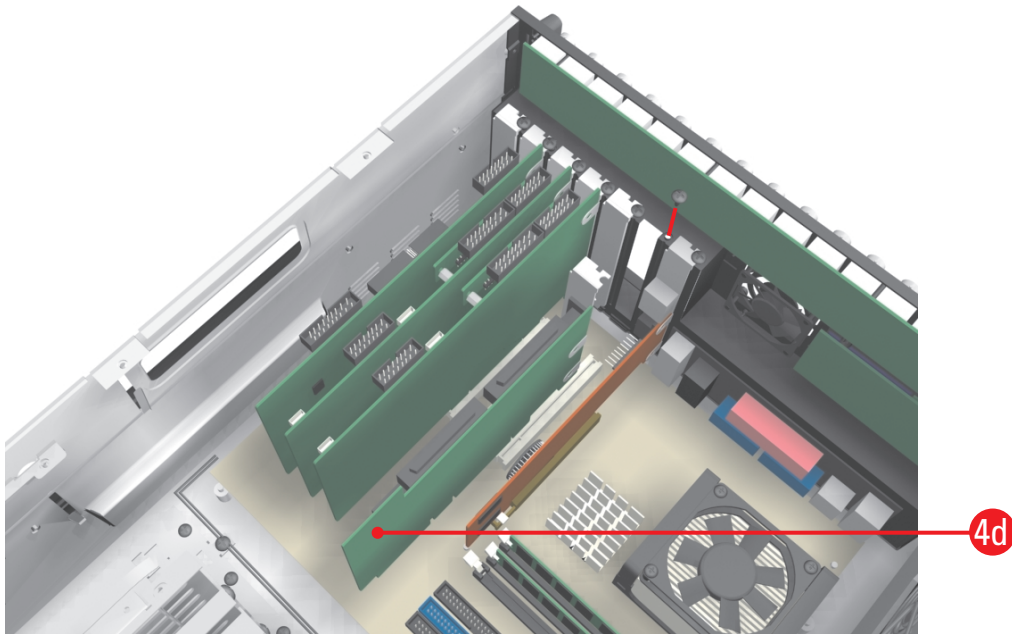

Figure 11. Inserting the DX8000-ISCI Card into PCI Slot 1
- b. Insert the DX8000-ISCI card in the PCI slot. Refer to Figure 11.